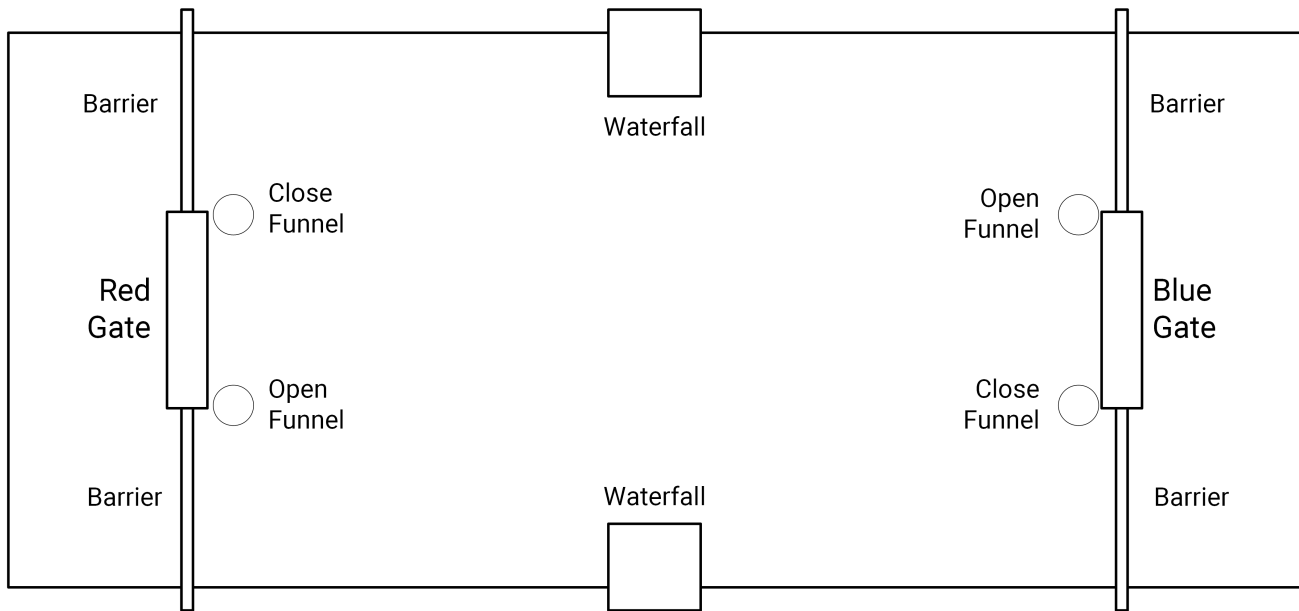

Figure 1: The Battle Pond
- The Battle Pond is comprised of a region of Terman Pond, measuring approximately 60 ft by 25 ft (see Figure 1).
- At the beginning of each game the participating SHIPs will be placed in front of their respective gates as shown in Figure 1.